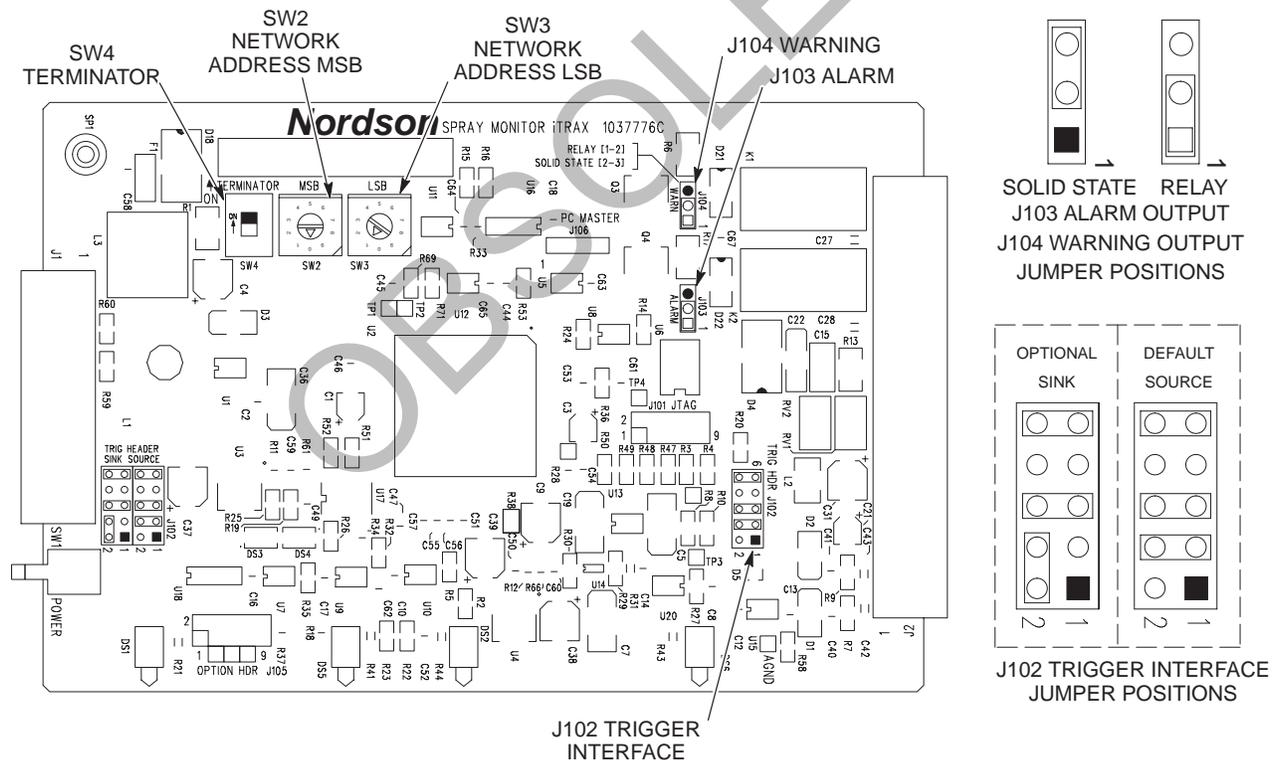

Figure 1 Spray Monitor Switches and Settings
5. See Figure 1. Make the following settings: